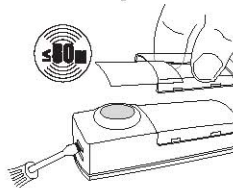

Fig.3
3. Carefully lift off the transparent cover so that you can put your name under it. Press the transparent cover back in place (Fig. 3).
4. Use a screwdriver to open the remote push-button case and gently press it into the top slit of the lock and then remove the case cover (Figs. 3+4).